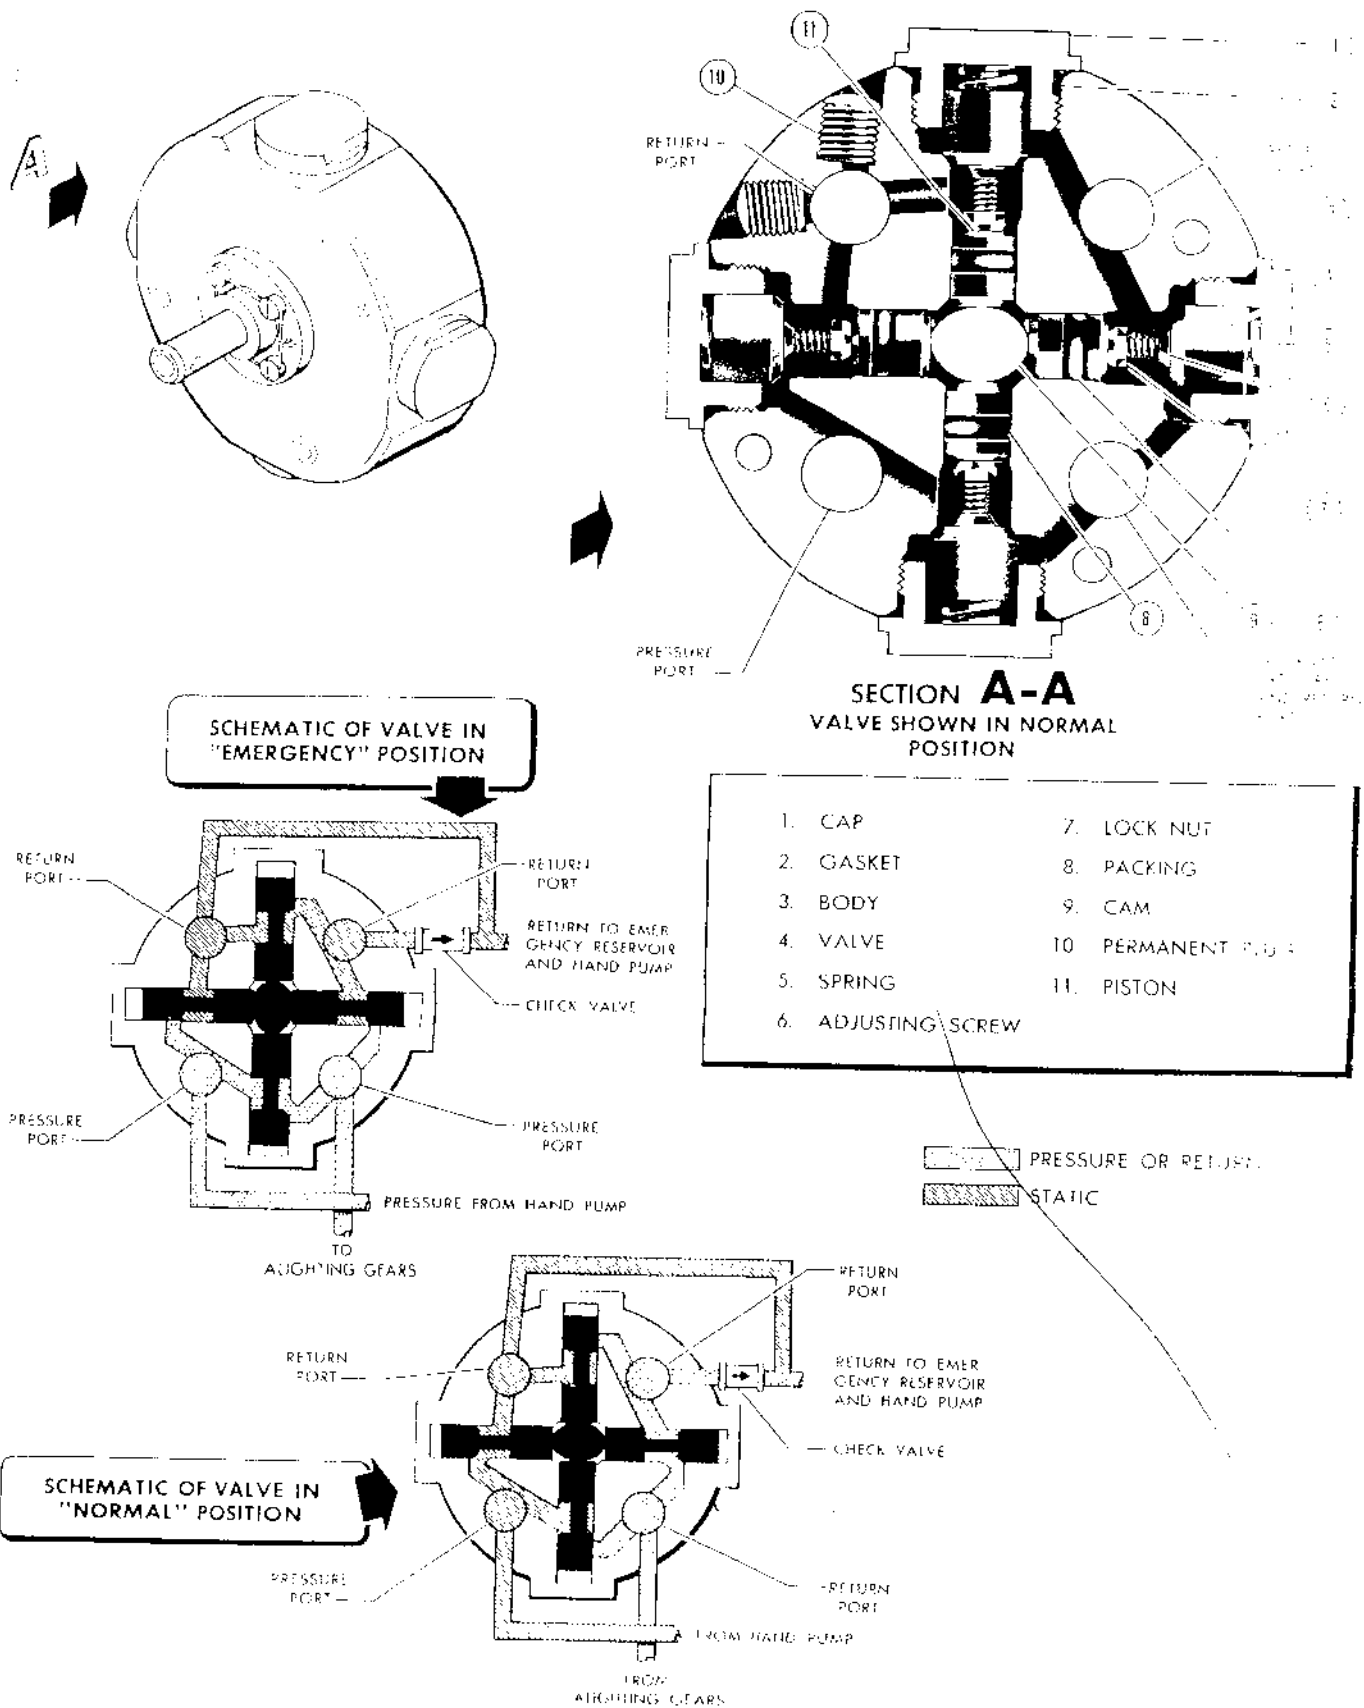

Figure 163 — Alighting Gear Emergency Selector Valve, Airplanes Serial Nos. AF44-84992 through 44-85336
(5) EMERGENCY SELECTOR VALVE, AIRPLANES SERIAL NOS. AF44-84992 THROUGH 44-85336. (See figure 163.)